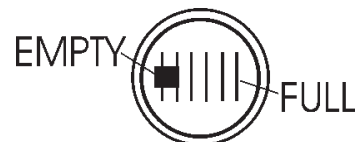

Figure 7. Fuel Gauge
3. Read the fuel gauge located on top of the fuel tank (Figure 7) to determine if the fuel level is low. If fuel is low, replenish with **clean unleaded fuel**.